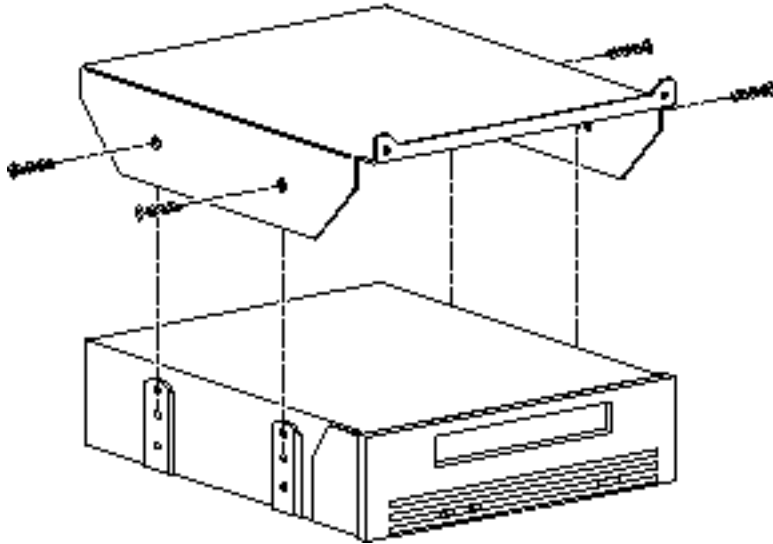

Figure 2-9 Installing the Mounting Bracket on the Tape Drive
7. Install the four flat-head phillips screws to secure the mounting bracket to the tape drive (Figure 2-9).
5. **Remove the four phillips screws securing the mounting bracket to the tape drive (Figure 2-9).**